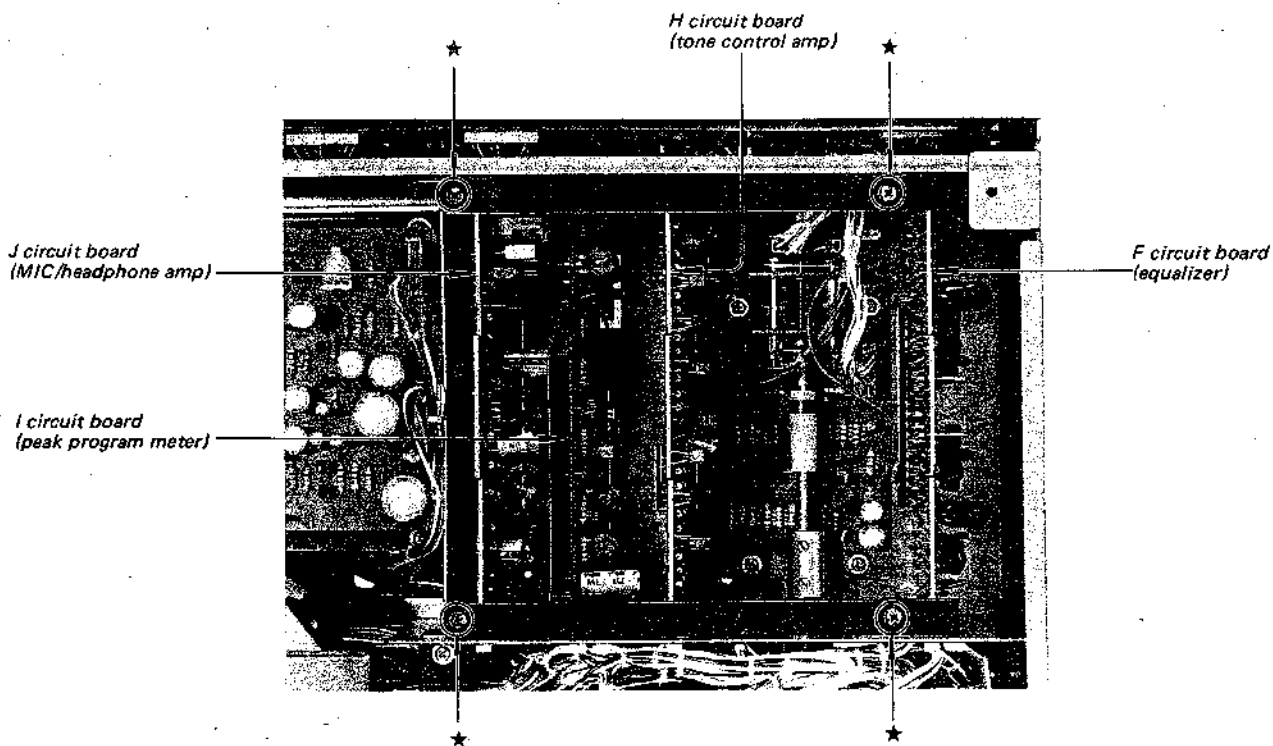

Fig. 2-9. Circuit board removal
1. Remove the four screws (marked ★) shown in Fig. 2-9.